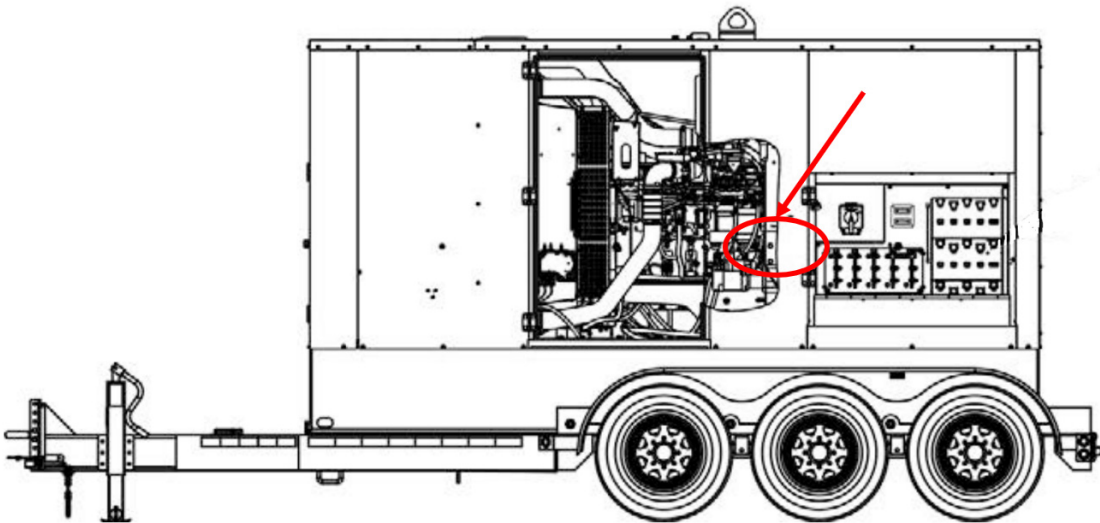

Figure 1: Inspection Location on Generator Set
3. Locate the engine's starter motor and inspect the nearby red wires with fuse holders outside of the protective loom for signs of chafing or damage. The inspection location is illustrated in Figure 1.